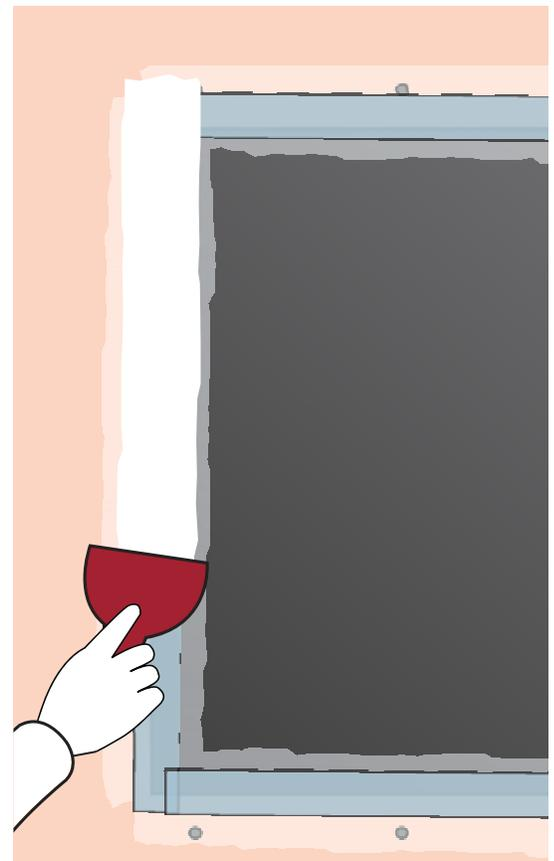

Figure 14.
4. Spread the drywall compound over the tape in a manner that requires minimal sanding. See Figure 14.